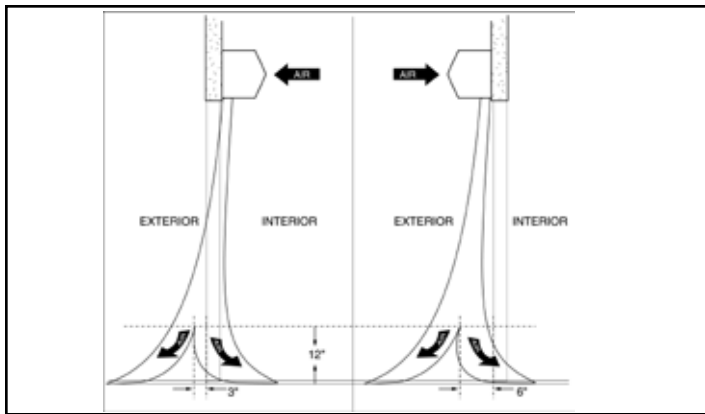

FIGURE 7 - Air Flow Adjustment
2. Find the air stream split location. Hold a handkerchief by its corners, approximately 12" above the floor. Gently move the handkerchief back and forth in the doorway. Make sure the air is being directed to both the inside and the outside. **See Figure 7.** The split location is indicated where the handkerchief is vertical with minimal or no fluttering.